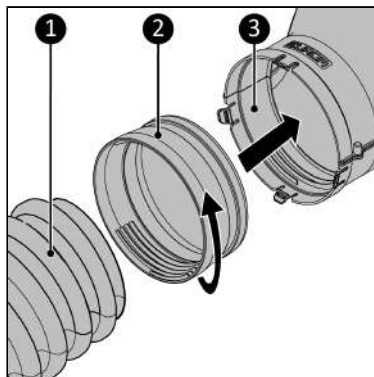

Figure 103.
- With a rotating system, for a hose without a collar (Figure 103, pos. 1).
1. Insert the air conditioning hose (Figure 103, pos. 1) into the adapter (Figure 103, pos. 2) and screw the adapter clockwise onto the hose.
2. Insert and click the adapter with the mounted air conditioning hose into the main body of the Window Way Out (Figure 103, pos. 3).